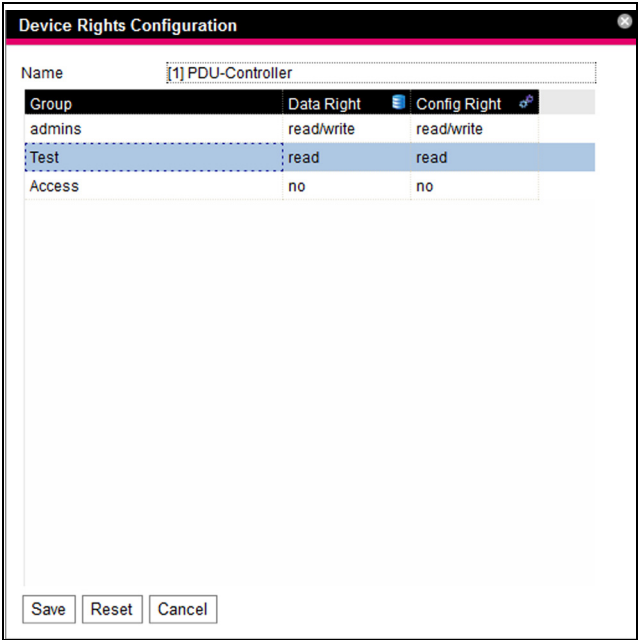

Fig. 54: "Device Rights Configuration" dialogue
- Click on the "Configure Device Rights" symbol (fig. 52). The "Device Rights Configuration" dialogue will appear (fig. 54).
The "Device Rights Configuration" dialogue will appear (fig. 54).
The respective symbols are displayed both when selecting a sensor in the navigation area on the **Configuration** tab and opening it down to the lowest level, as well as in the "Device Rights Configuration" dialogue (fig. 54). The symbols illustrate allocation to the two data types "Data" and "Config".